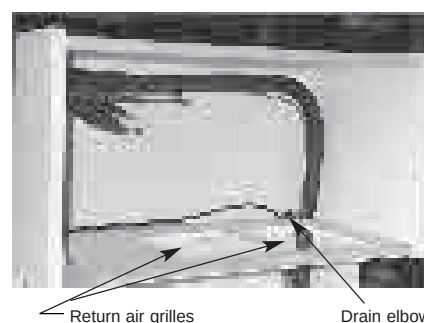

Figure 10
Provided the cupboard is 525 mm wide or more, the two grilles can be installed side by side in the underside of the cupboard. (Refer fig. 10)
■ Now Install the Air Handler (refer fig. 10, 11 & 12)